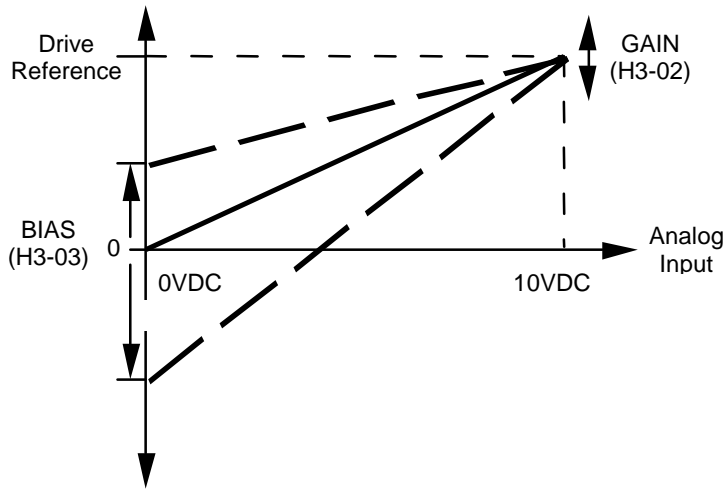

Figure 5. Gain & Bias Adjustments – Shown for Channel 1 (TC1)
- (3) See Figure 5.
- (4) **Warning:** If the application requires that reverse motor rotation be prohibited, Parameter b1-04 must be set to "1" so the motor will stop whenever the polarity of the input signal becomes negative.